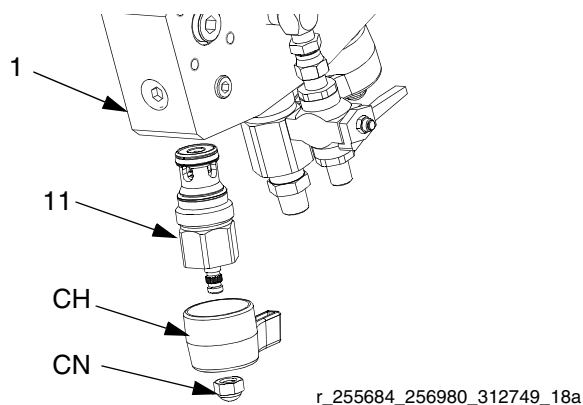

FIG. 6
1. Apply blue thread lock to external threads of cartridges (11) and install in manifold with stem backed out fully counter-clockwise. Place wrench on cartridge flats and torque to 125 ft-lbs (170 N•m). See FIG. 6 on page 18.
2. Install handle (CH) and cap nut (CN) on cartridge so that the handles point toward each other when closed.